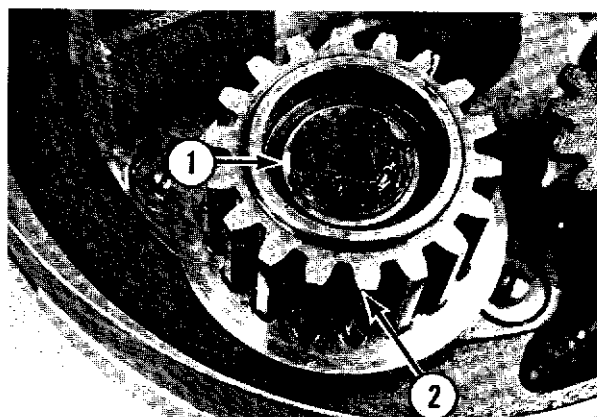

Fig. 10-13
- I. Install the key (1, Fig. 10-13), pinion (2, Fig. 10-13) and the retaining ring.